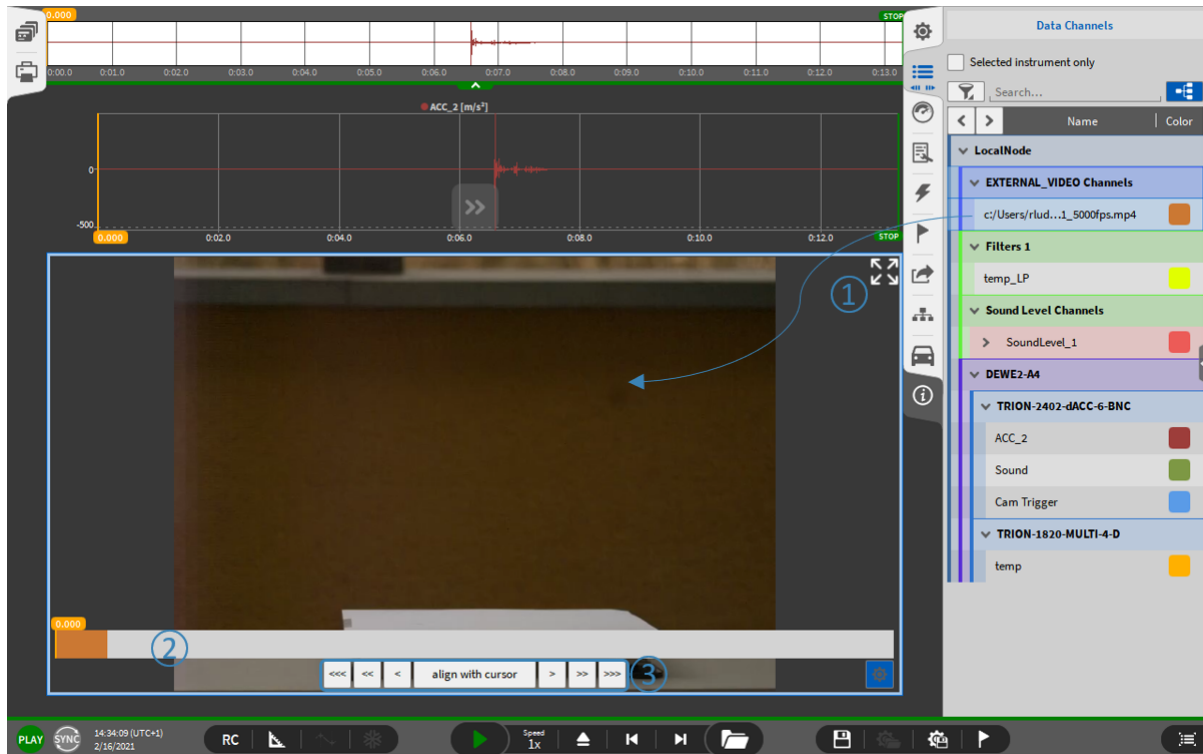

Fig. 7.170: Manual delay compensation between video and sensor data
1. Go to the measurement screen and drop the external video channel to the measurement screen (see ① in Fig. 7.170). This will create a video instrument including the video.
The timebar shows the actual position of the video within the OXYGEN data file (see ② in Fig. 7.170)
2. The buttons (see ③ in Fig. 7.170) can be used to change the position of the video within the data file